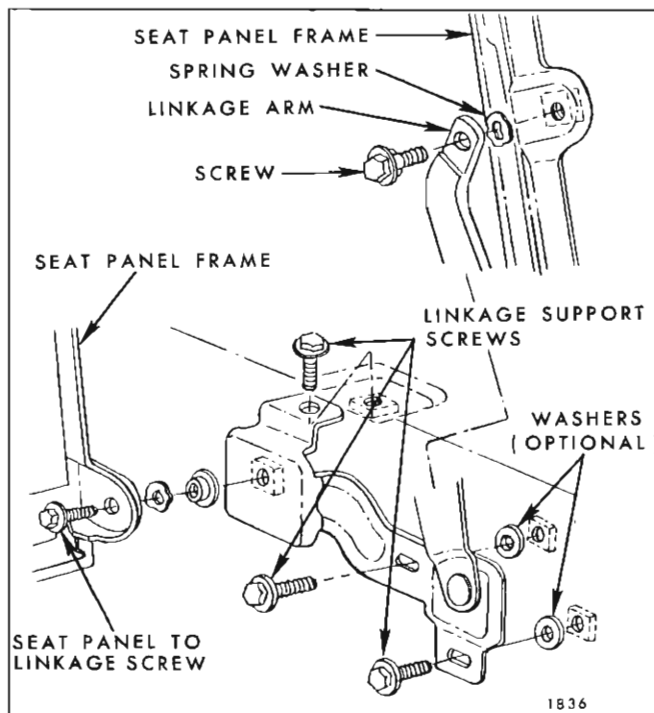

Fig. 2H24—Folding Third Seat Back Linkage
1. Place folding third seat cushion and back in normal sitting position. Remove both right and left rear compartment side cover panel. (See Fig. 2H18).
2. Remove two screws from both sides of seat securing third seat cushion linkage to body. (Fig. 2H22); then, remove seat cushion, panel assembly and linkage from body.
3. To remove linkage from folding third seat cushion panel, remove linkage attaching screw (Fig. 2H23) and remove linkage from seat back panel.